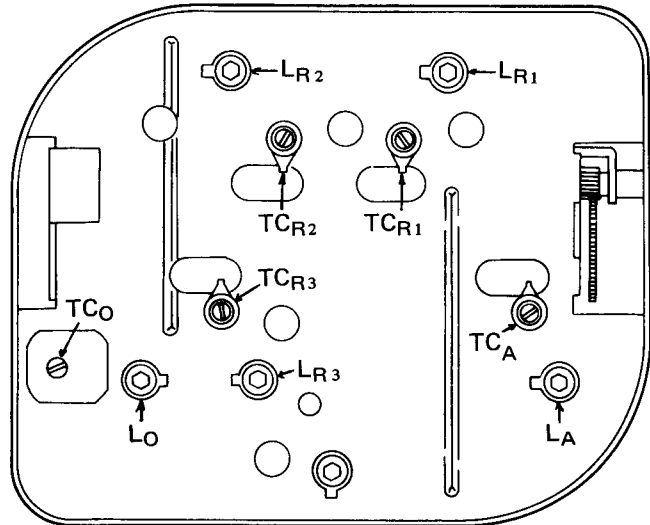

Fig. 15 Bottom view of FM front-end
4. Now set the dial indicator of TX-9500II and FM SG to 106MHz, and adjust each of the trimmers  $TC_O$ ,  $TC_A$ ,  $TC_{R1}$ ,  $TC_{R2}$ , and  $TC_{R3}$  in the FM front-end (Fig. 15) to give maximum deflection on the AC voltmeter.